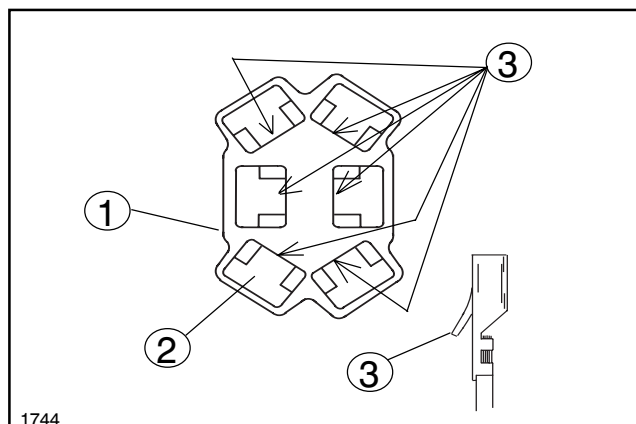

FIG. 4
b. Remove the wires/terminals from the 6-pin connectors using a small flat tip screw driver. Insert the tip of the screwdriver into a socket of the Connector from the side opposite of where the wires go in and on the side where the metal Tang of terminal locks into the connector. See FIG 4. Press the Tang back completely and pull the wire/terminal from the socket.